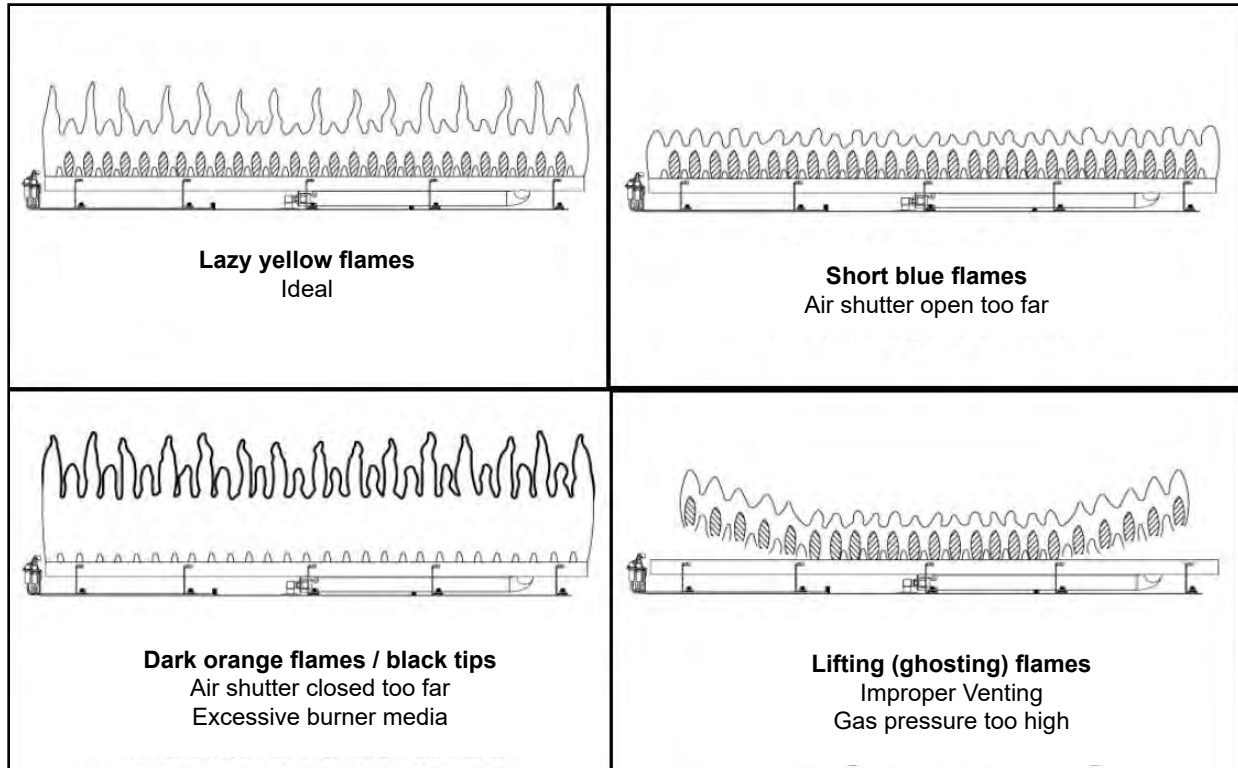
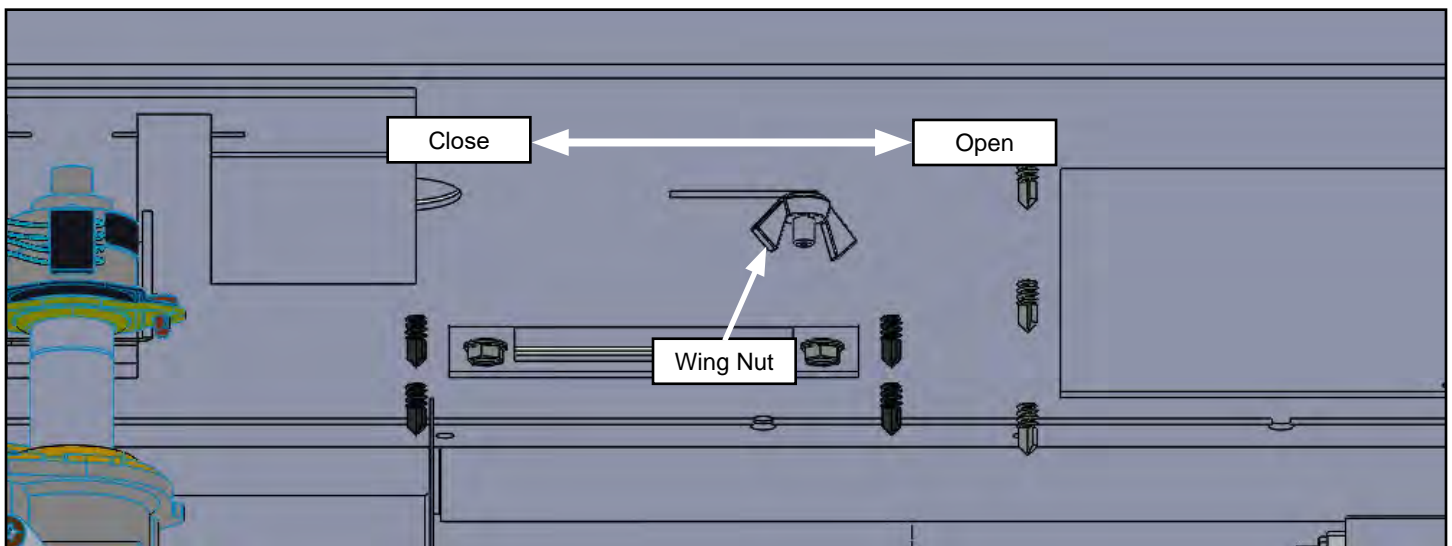

Figure 18.5.01:
Figure 18.5.02:
- Inspect and ensure the lighting of the main burner occurs within 4 seconds of the main gas valve opening. Flames should match those shown in **Figure 18.5.01**.
The 345-DVTE31LN-1 and 345-DVTE31LP-1 includes an air shutter located under the firebox which may be used to adjust the primary air to achieve the ideal flame as shown in **Figure 18.5.01**. To adjust, loosen the wing nut on the air shutter and adjust as shown in **Figure 18.5.02**. To open the air shutter and increase air flow to the burner, slide the air shutter to the right. To close the air shutter and decrease air flow to the burner, slide the air shutter to the left. Tighten the wing nut when the desired flame appearance is achieved.